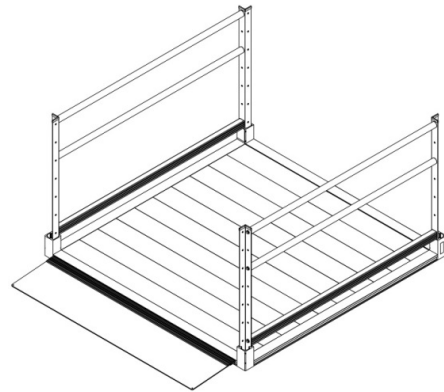

FIG. 2.12
2.6.4. Low profile platforms can be elevated when used with support tubes and feet or set directly on the ground and used as a landing pad (FIG. 2.12). When used as a landing pad, it may be used with or without handrails and will require a low profile ground transition.